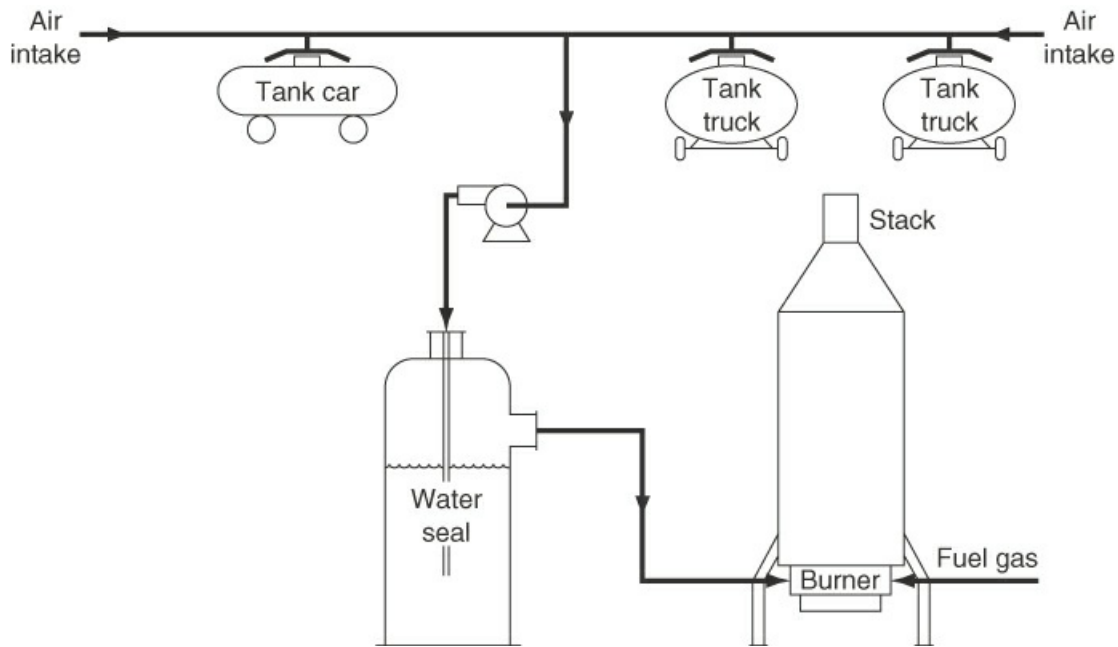

Figure P7.4.16
- ***7.4.16** Figure P7.4.16 shows a typical *n*-butane loading facility. To prevent explosions, either (a) additional butane must be added to the intake lines (a case not shown) to raise the concentration of butane above the upper explosive limit (UEL) of 8.5% butane in air, or (b) air must be added (as shown in the figure) to keep the butane concentration below the lower explosive limit (LEL) of 1.9%. The *n*-butane gas leaving the water seal is at a concentration of 1.5%, and the exit gas is saturated with water (at 20°C). The pressure of the gas leaving the water seal is 120.0 kPa. How